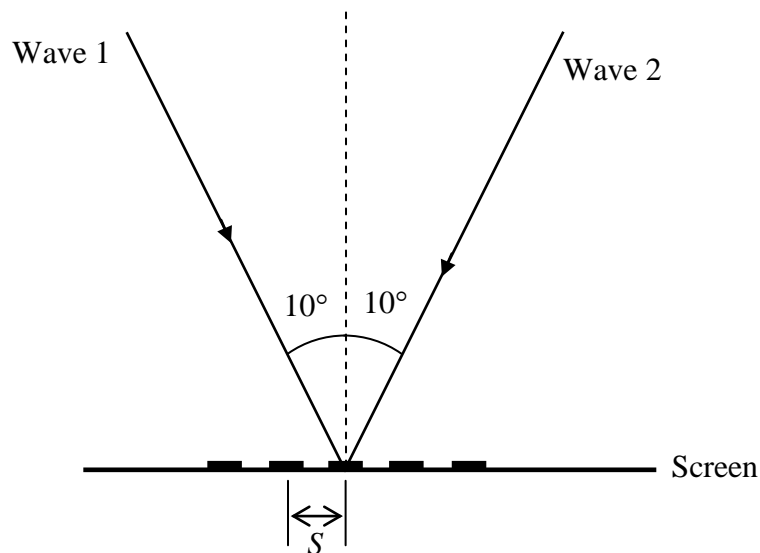

Figure Q1[d]
- [d] Two plane waves originating from an expanded He-Ne laser ($\lambda = 632 \text{ nm}$) interfere obliquely as shown in Figure Q1[d]. If the angle between each beam and the vertical is 10° determine the horizontal spacing S of the fringes formed using either geometrical or complex amplitude method.